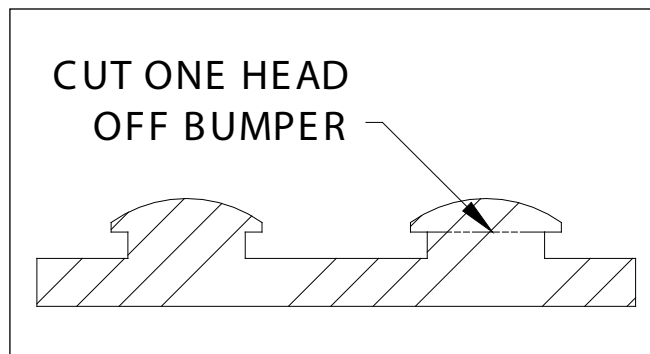

Figure 1
- C. Cut one molded head off each of the 4 rubber bumpers as shown in Figure 1.